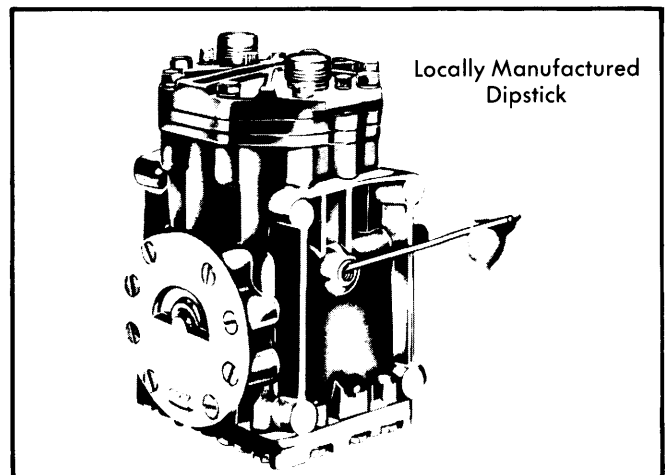

Fig. 3 Checking Oil On Vertically Mounted York Compressor
2) Stop engine and discharge entire system using a suitable Schrader-Type service valve. Fabricate a suitable dipstick according to specifications (see Fig. 3). Remove oil filler plug and insert dipstick until it bottoms. If necessary, slightly rotate compressor crankshaft by hand so that dipstick will clear. Level on dipstick must be within specifications.